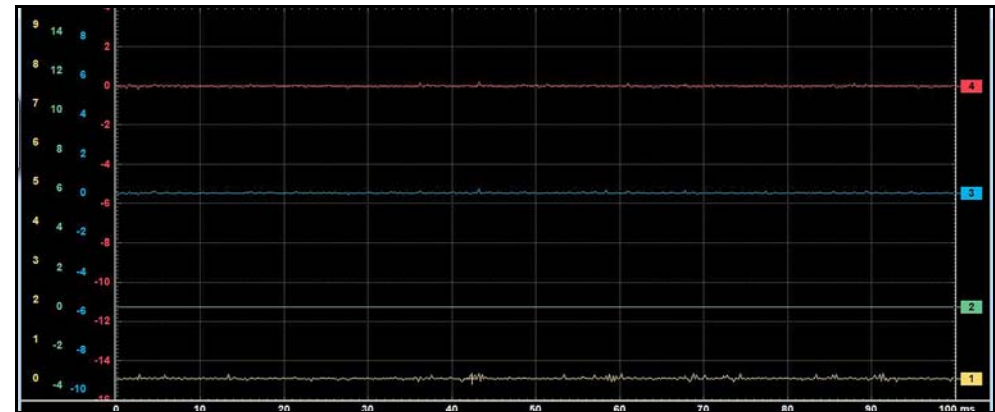

Figure 8-17 Sample grid selected
- **Show Grid**—switches grid lines on the screen off and on (Figure 8-17).
- **1 window**—shows all traces on the same screen (Figure 8-17).